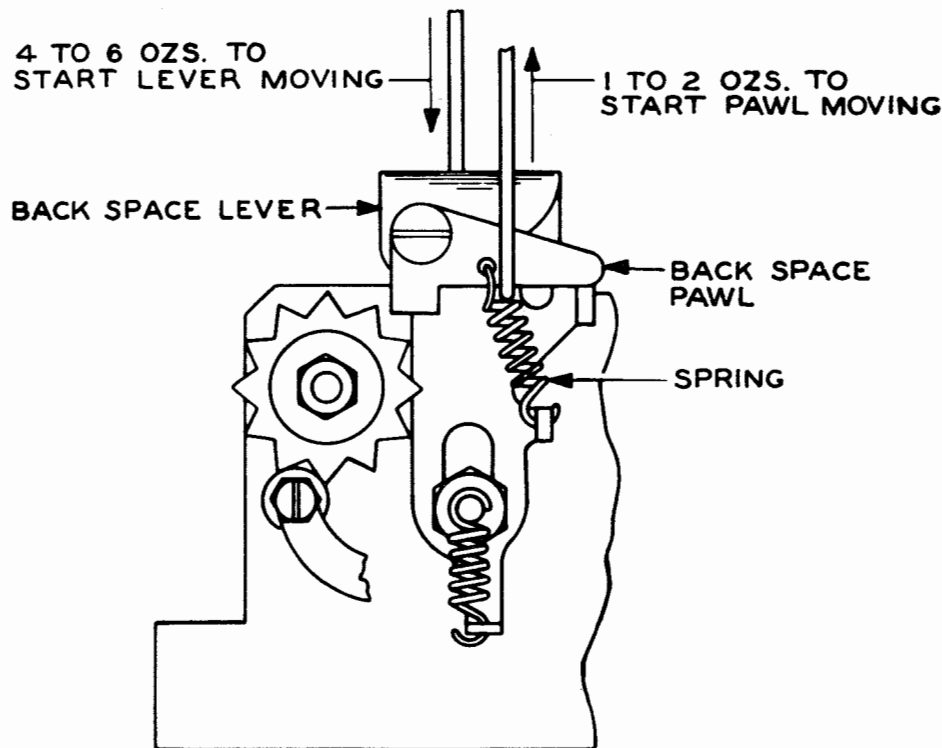

Figure 5
2.08 Back-space Lever Spring: It should require a push as specified in the figure to start the back-space lever moving downward. See Figure 5.
2.09 Back-space Pawl Spring: It should require a pull as specified in the figure to start the back-space pawl moving upward. See Figure 5.